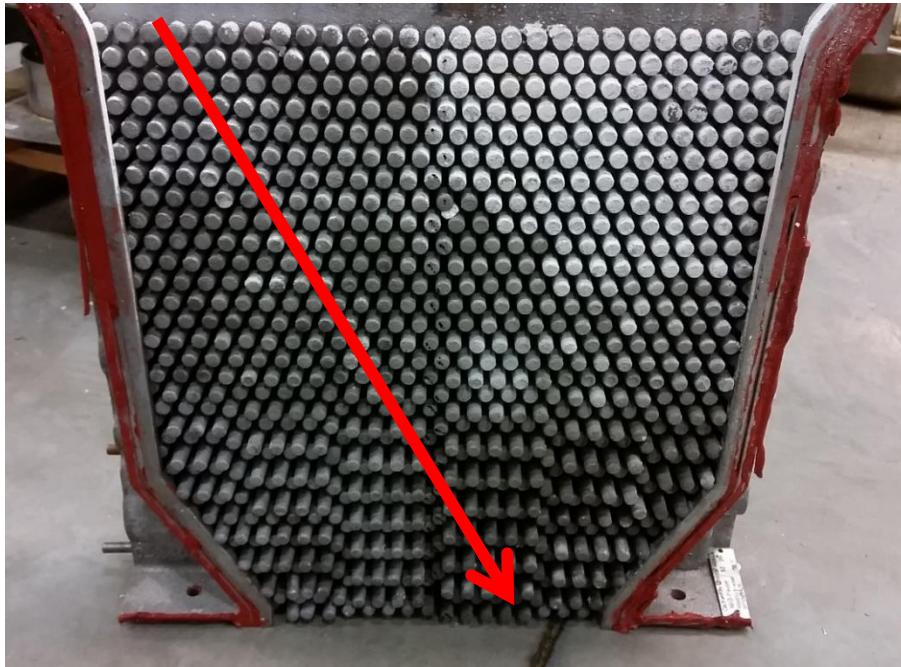

Figure 8-22: Angle of Cleaning Instrument – Heat Exchanger Cut-Away View
3. The most crucial area to clean is the bottom of the heat exchanger, where the heat exchanger pins are the closest. This can be done by removing one of the exhaust manifold “blanks” and using a pressure washer with angled nozzle to spray upwards. Make sure to cover the top of the heat exchanger with a tarp to prevent water from spraying out of the top of the unit. To clean this area manually, insert your cleaning instrument at an angle between the pins, as shown in Figure 8-22. Be sure to clean the space between each pin.